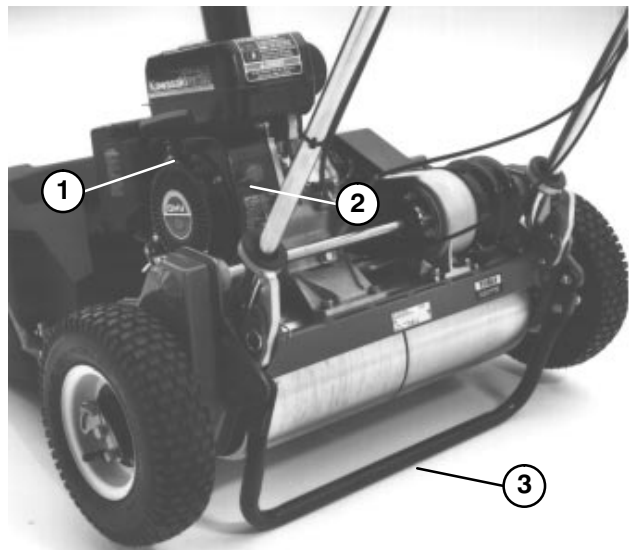

Figure 19
Recoil Starter (Fig. 19) - Pull recoil starter handle to start engine.
On/Off Switch (Fig. 19) - Located on rear of engine. Move switch to ON position to start engine and Off to stop engine.
Kick Stand (Optional) (Fig. 19) - Mounted to rear of machine, kickstand is used to raise rear of machine for installation or removal of transport wheels.
3. Move ON / OFF switch (Fig. 19) to ON position .